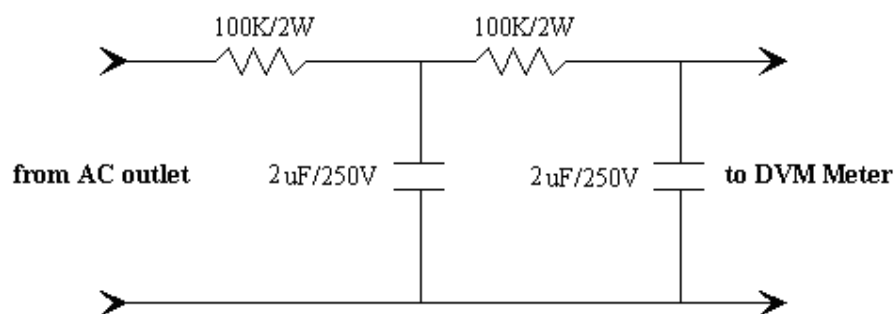

Figure III-1 : Circuit for test output balance
| CNTL | Current balance | #O/P line #O/P neutral | 1.Connect test circuit as figure III-1. 2. Connect DVM (DC) to test points and connect UPS to the main, then press “on” | |